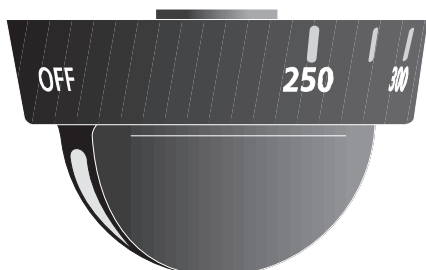

FIGURE 1
2. Remove broiler pan and insert, Figure 1.
6. Place broiler pan on rack; make sure the broiler pan and insert is positioned as shown, Figure 1.
2. Remove the two hold-down screws (Figure 1) at the rear of the oven bottom panel. If the screws are too tight to remove by hand, use a screwdriver.